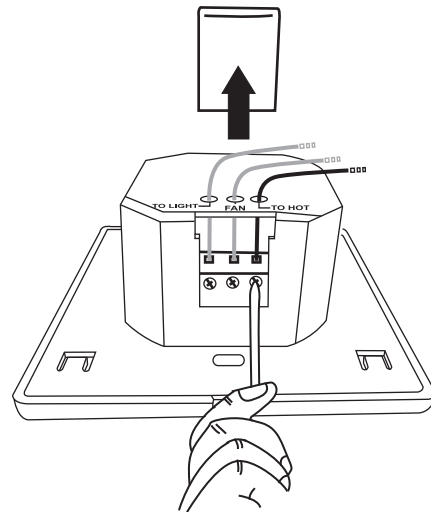

Figure 19
4. Connect the blue, neutral receiver neutral wire to the neutral household neutral wire. Connect the brown, Live receiver Live wire to the Live household Live wire (Fig. 19 & 11). Make sure there are no loose strands or connections.
2. Make speed control wire connections (Fig. 19). Ensure that bare wires are fully inserted into their terminals with no loose strands and that terminal screws are fully tightened.